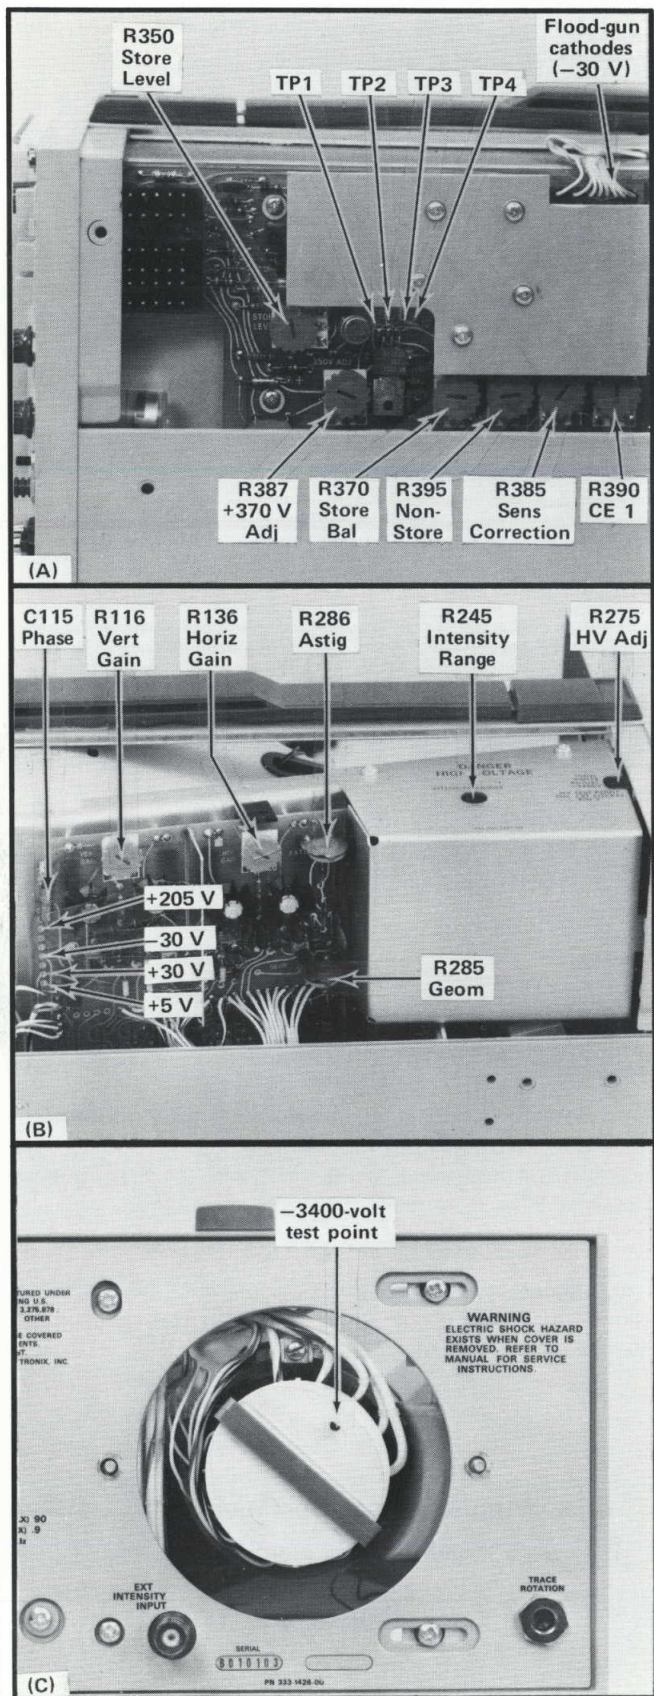

Fig. 4-1. Location of controls and test points.
4. Set the controls as given under Initial Control Settings. Refer to Fig. 4-1 for location of internal adjustments and test points.
a. Connect the DC voltmeter between each low-voltage test point and ground. See Fig. 4-1 for test point locations.